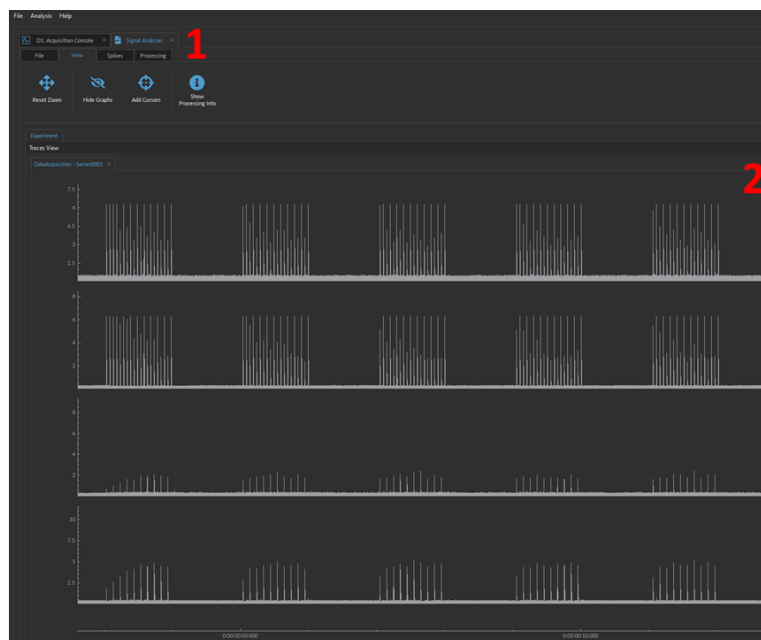

Figure 4.2: Electrophysiology Analysis Module
The **Signal Analyzer** module (Fig 4.2) is separated into two main sections.
1. The **Control section** (Fig. 4.2, 1) contains all controls, separated into the **File**, **View**, **Spikes** and **Processing** tabs.
2. The **Graph section** (Fig. 4.2, 2) contains all currently displayed graphs as well as timestamped notes.